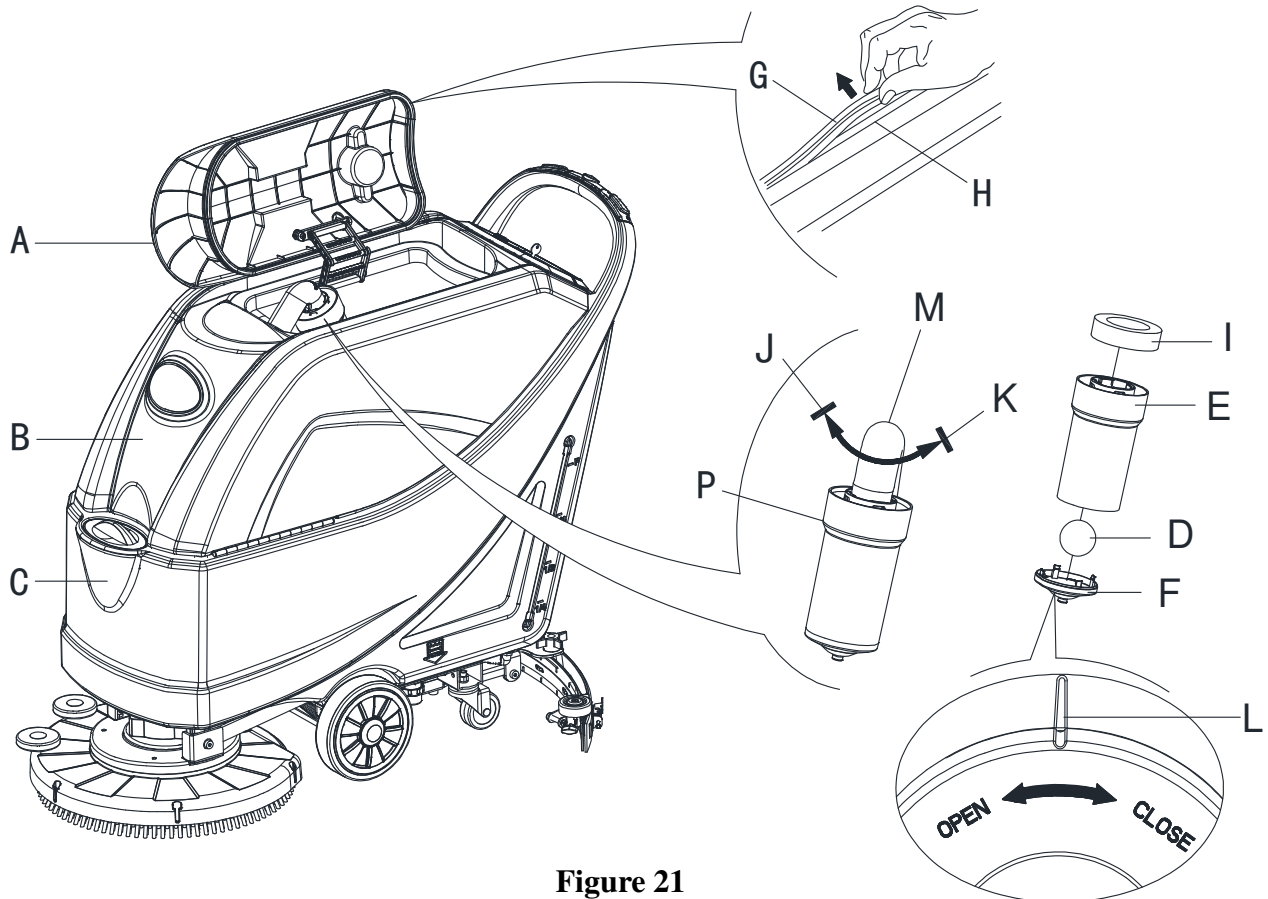

Figure 21
2. Ensure that the machine is off and the ignition key (54) has been removed.
3. Turn the recovery tank lid (A, Figure21) 90 degree position where it can be taken off from the tank, and then take down the float ball filter (P) from the tank.
5. If necessary, follow the symbols "OPEN" and "CLOSE" as shown in (Figure21) to open the bottom cover (F) of float ball filter and then clean the float ball (D), filter support frame (E) and filter sponge (I). After cleaning, fix the float ball (D) into the filter support frame (E) and then align the mark groove (L) of the bottom cap (F) of the float ball filter with the mark groove (L) of the float filter support frame (E). Screw the bottom cap of the float ball filter tight, and fix the filter sponge (I) onto the float filter support frame (E). Finally, connect it to the sewage suction hose (M).
**Tank sealing strip (G) makes to produce the vacuum inside the tank when suction motor works. The tank must be sealed can effectively absorb the water from the ground to recovery tank.**
7. Check whether the contact surface of sealing strip (G) is integrity and sealing is sufficient. If necessary, take the sealing strip of the tank out of the groove (H) and replace it. Assembly the new sealing strip as shown in (Figure21), the joint should be back in the middle area.
8. Close the recovery tank lid (A).